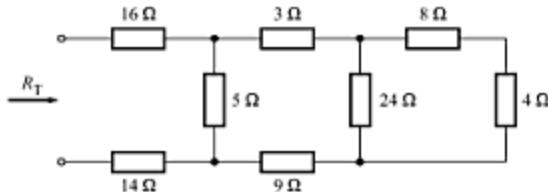

Fig. A-88
- A-50.** Find the total resistance R_T of the resistor ladder network given in Fig. A-88. [Ans. 34Ω]